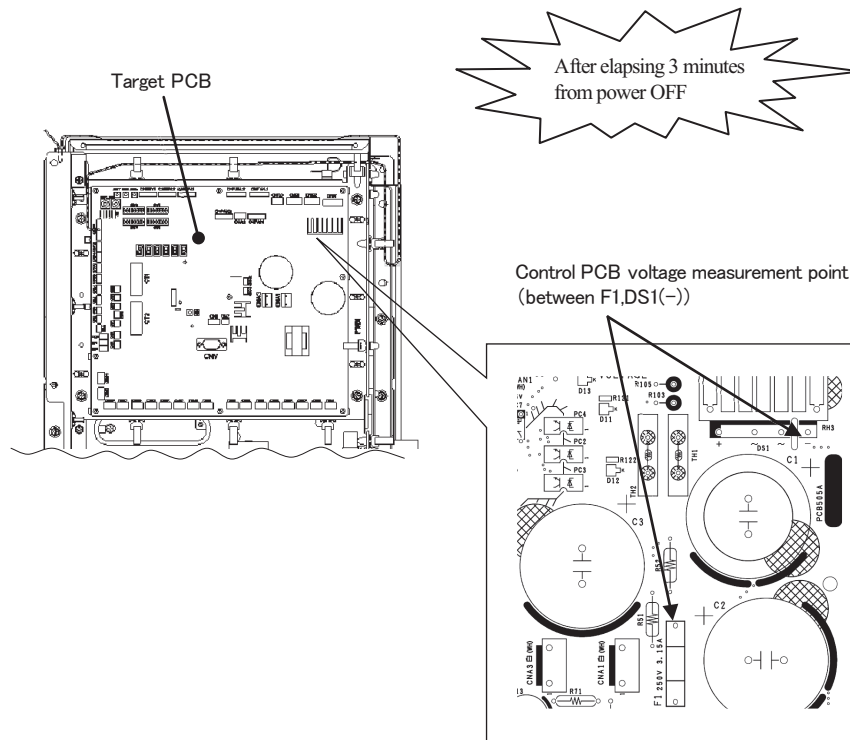

Fig.2 Voltage measurement points
(Be sure to measure voltage (DC) and check that the voltage is discharged sufficiently. (Refer to Fig.2))